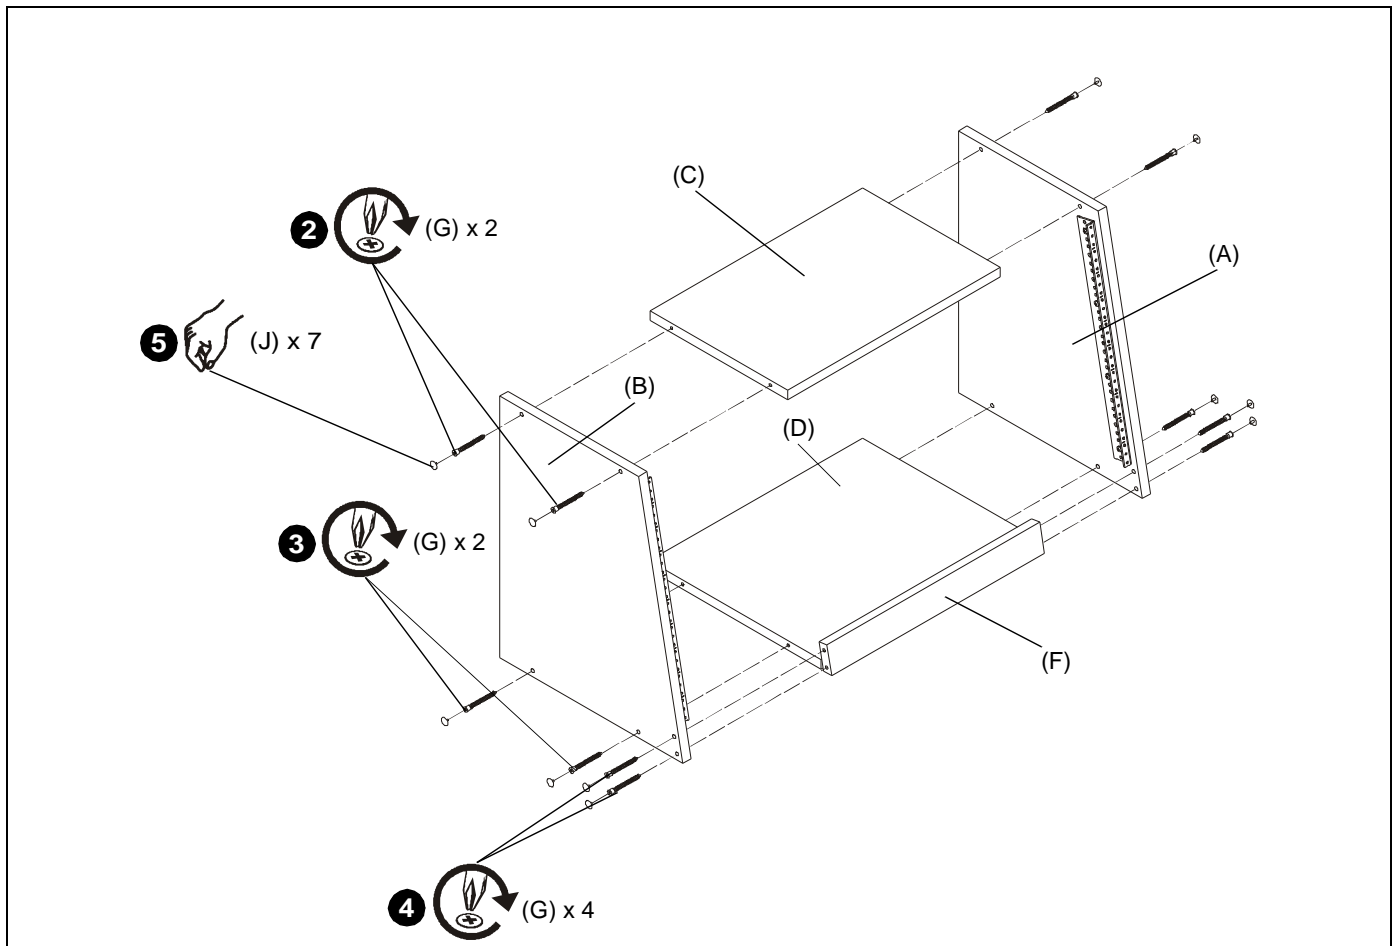

Figure 2
2. Secure rack top (C) to one side panel using two M7x70mm Phillips confirmat screws (G). Do not overtighten! (See Figure 2)
3. Secure the rack bottom (D) using two M7x70mm Phillips confirmat screws (G). Do not overtighten! (See Figure 2)
4. Secure cross brace (F) to the front of the side panel using two M7x70 Phillips confirmat screws (G). (See Figure 2)
5. Install six caps (J) to installed confirmat screws (G). (See Figure 2)
6. Install remaining side panel (A) to the other side following Steps 2-5.